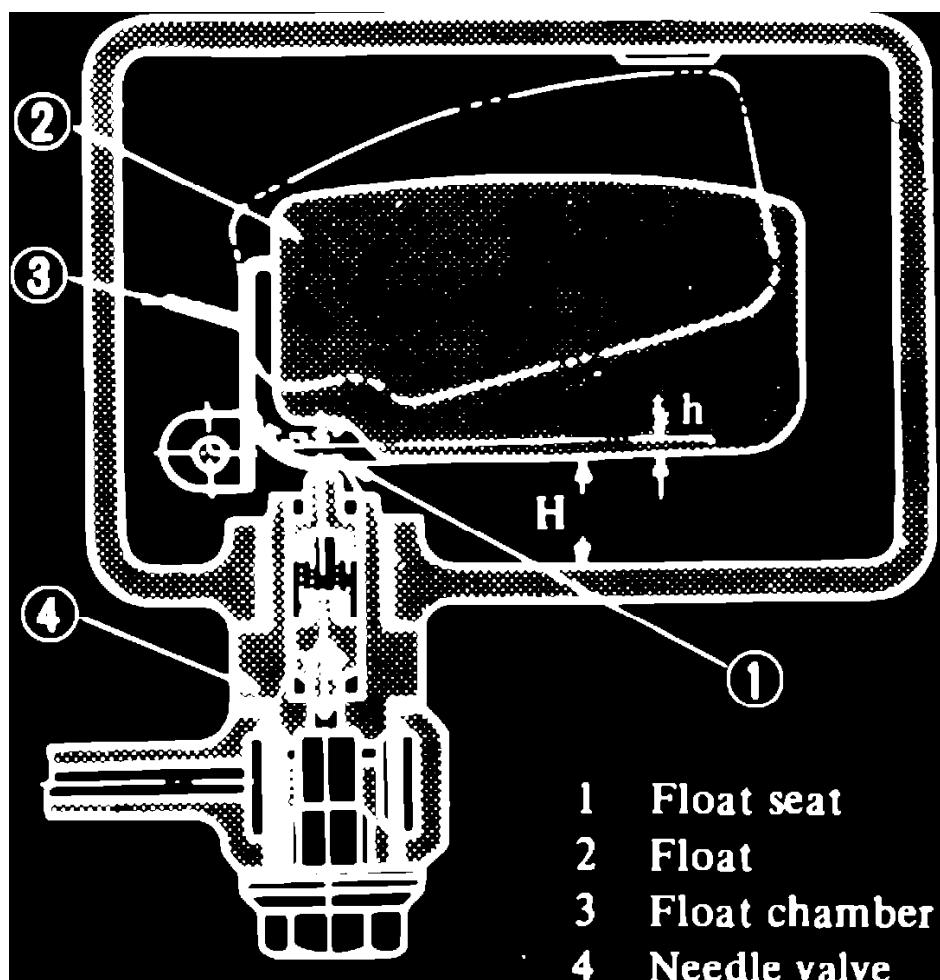

Fig. 10 Float level adjustment.
2. Invert float chamber to allow float to come into contact with needle valve, and measure clearance "H," **Fig. 10**. Clearance should be as listed in the specifications chart. The top float position can be adjusted by bending float seat.
3. Adjust bottom float position so that clearance "h" between float seat and needle valve stem, **Fig. 10**, is as listed in the specifications chart when float is fully raised. Bend float stopper as required.